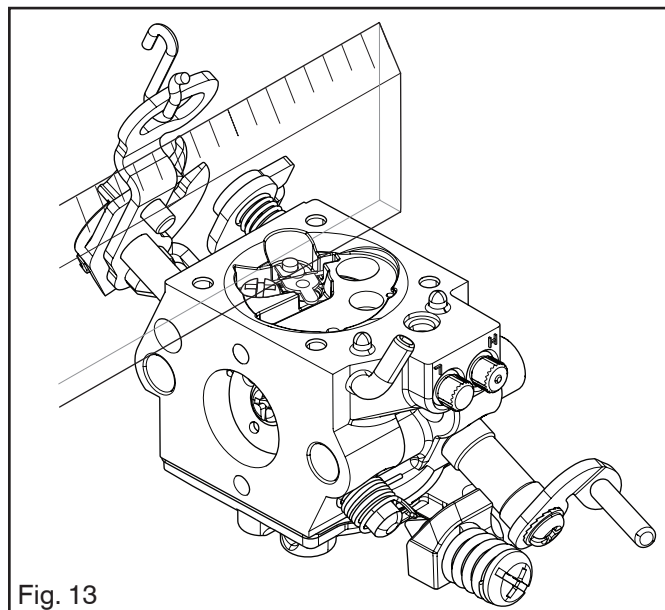

Fig. 13
5. Check using a ruler or the like that the lever arm is level with the cover. The lever arm can be bent if necessary. See Figure 13.